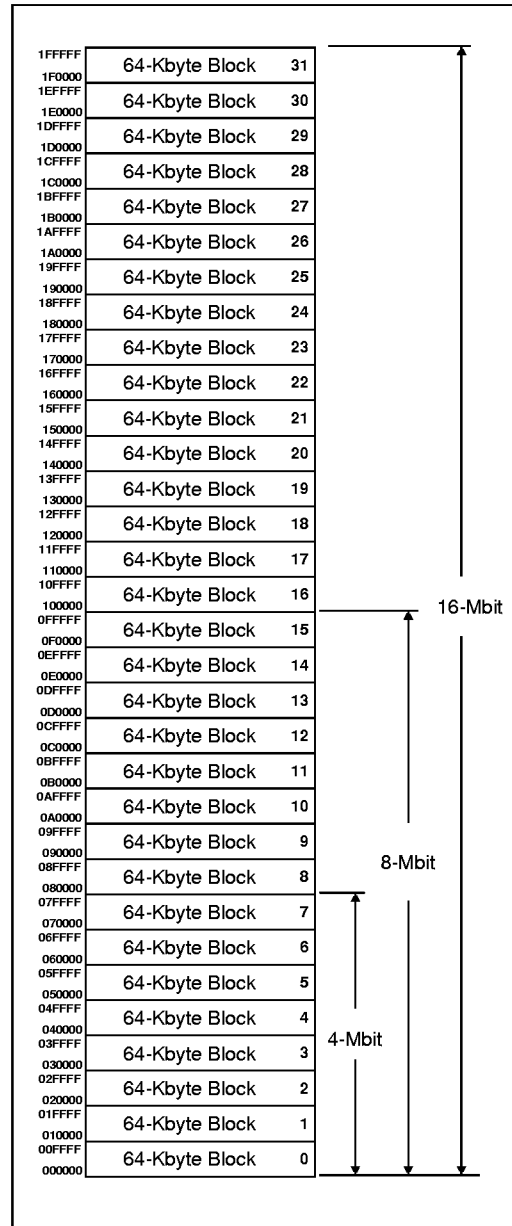

Figure 5. Memory Map
The 3 Volt FlashFile memory family provides density upgrades with pinout compatibility for the 4-, 8-, and 16-Mbit densities. The 28F004S3, 28F008S3, and 28F016S3 are high-performance memories arranged as 512 Kbyte, 1 Mbyte, and 2 Mbyte of eight bits. This data is grouped in eight, sixteen, and thirty-two 64-Kbyte blocks which are individually erasable, lockable, and unlockable in-system. Figure 5 illustrates the memory organization.
| Read Identifier Codes | | V _{IH} or V _{HH} | V _{IL} | V _{IL} | V _{IH} | See Figure 5 | X | Note 5 | V _{OH} |
- X selects the specific block lock configuration code to be read. See Figure 5 for the device identifier code memory map.